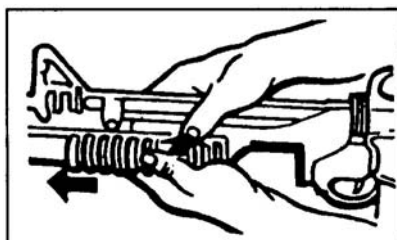

Figure 4. Unlocking and opening the M203 barrel.
- c. Press the barrel latch and move the barrel forward to the barrel stop (Figure 4).